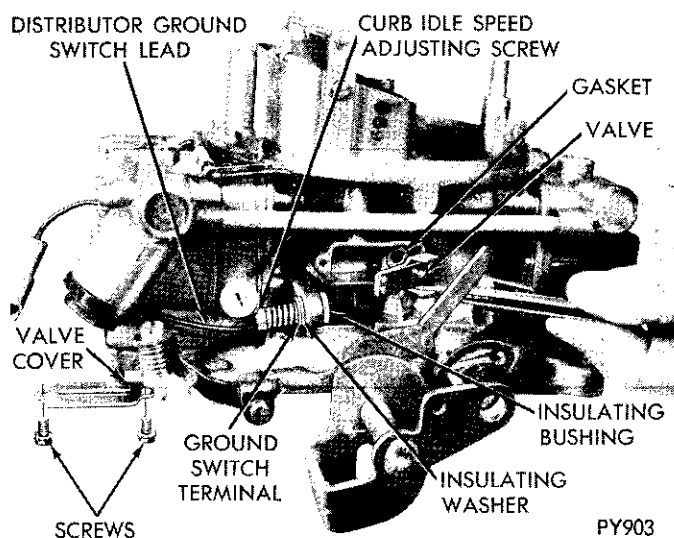

Fig. 5—Removing or Installing Hot Idle Compensator Valve
(10) Remove "E" clup that retains fast idle cam lever and cam. Slide lever and cam off stub shaft, and at the same time, disengage choke rod from cam lever. (Note position of fast idle cam to cam lever.)
(11) Remove secondary diaphragm attaching screws and remove diaphragm assembly. Disengage diaphragm stem from secondary stop lever. Remove gasket.
(12) Remove pump discharge nozzle retaining screw, then lift out discharge nozzle. Remove gasket from nozzle (top and bottom).
(13) Remove screws that attach hot idle compensator valve cover to main body. Lift off cover, then remove valve and gasket. (Fig. 5). If so equipped.
(14) Remove curb idle speed screw and spring. Then remove insulating washer from between lead terminal and stop. Remove distributor ground switch lead. Using a thin blade screw driver, remove insulator bushing from boss on body. (Fig. 5).
(15) Invert carburetor and drop out pump discharge jet needle from discharge passage.
(16) With carburetor inverted, remove screws that
attach the throttle body to main body (Fig. 5). Remove throttle body and discard gasket.